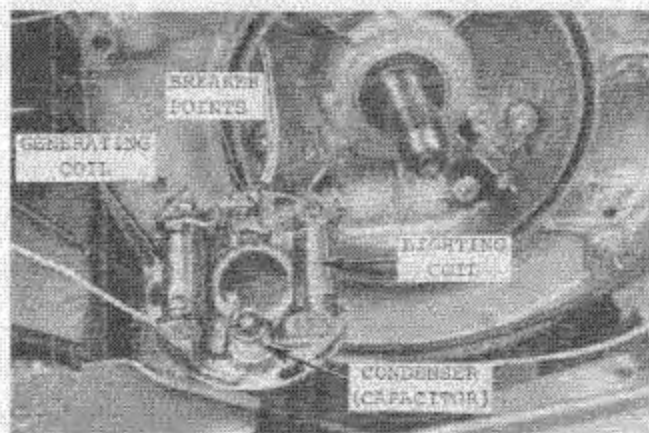

Fig. 2 — Coil Plate Removed
5. Scribe a mark on magneto coil plate and engine (to aid in reassembly) then remove coil plate. Place plate out of the way of crankshaft. See Fig. 2.